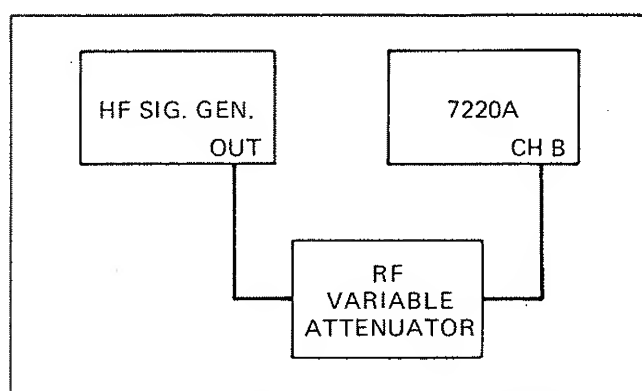

Figure 4-11. Channel B Squelch Adjustment
1. Connect the 7220A and test equipment as indicated in Figure 4-11.